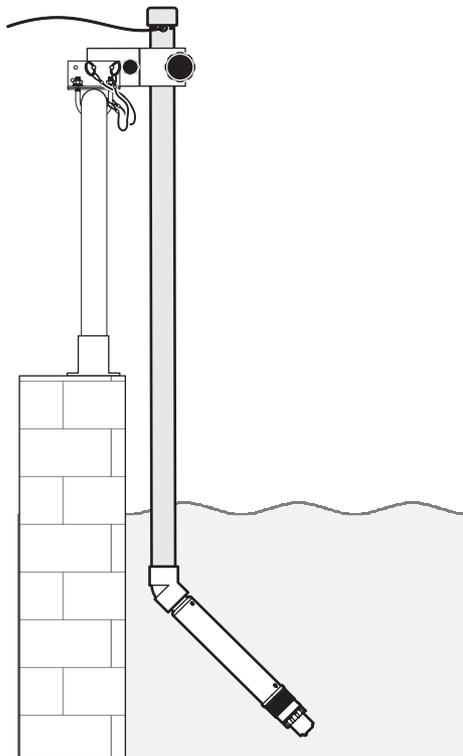

Figure 8 Example of sensor installation
- Refer to the instructions supplied with the optional mounting accessories for detailed installation information (see Figure 8 on page 13).